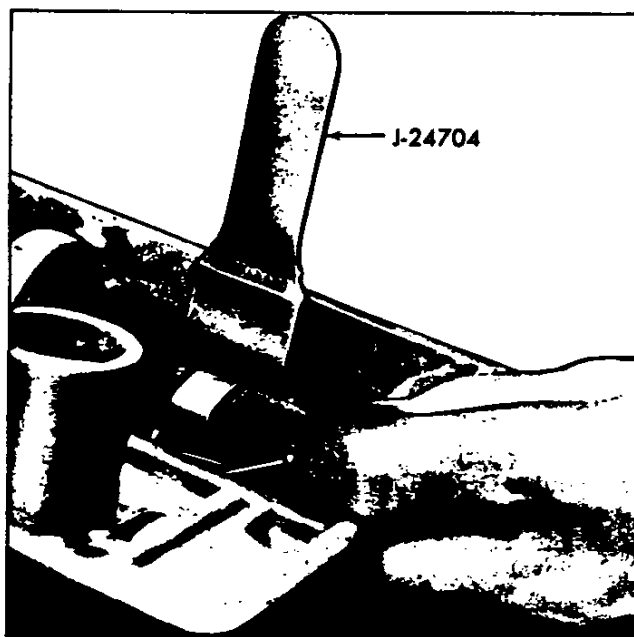

Fig. 6—Removing Tappet Adjusting Shim
- g. Install tool J-24704 to hold tappet in depressed position, rotate cam to provide clearance, and remove tappet adjusting shim (fig. 6).